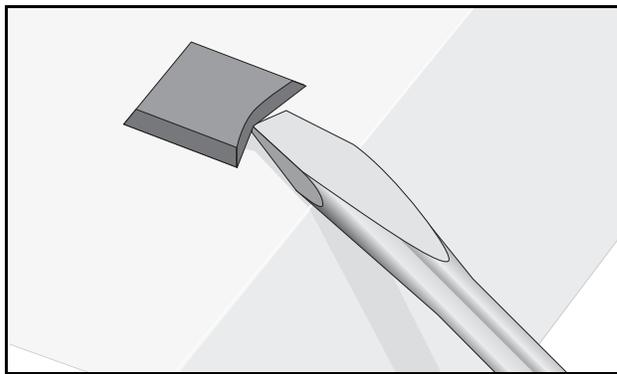

Figure 7. Removing the Rubber Feet from Chassis
2. If attached, remove the rubber feet from the bottom of the chassis with a flat bladed screw driver as shown in Figure 7.